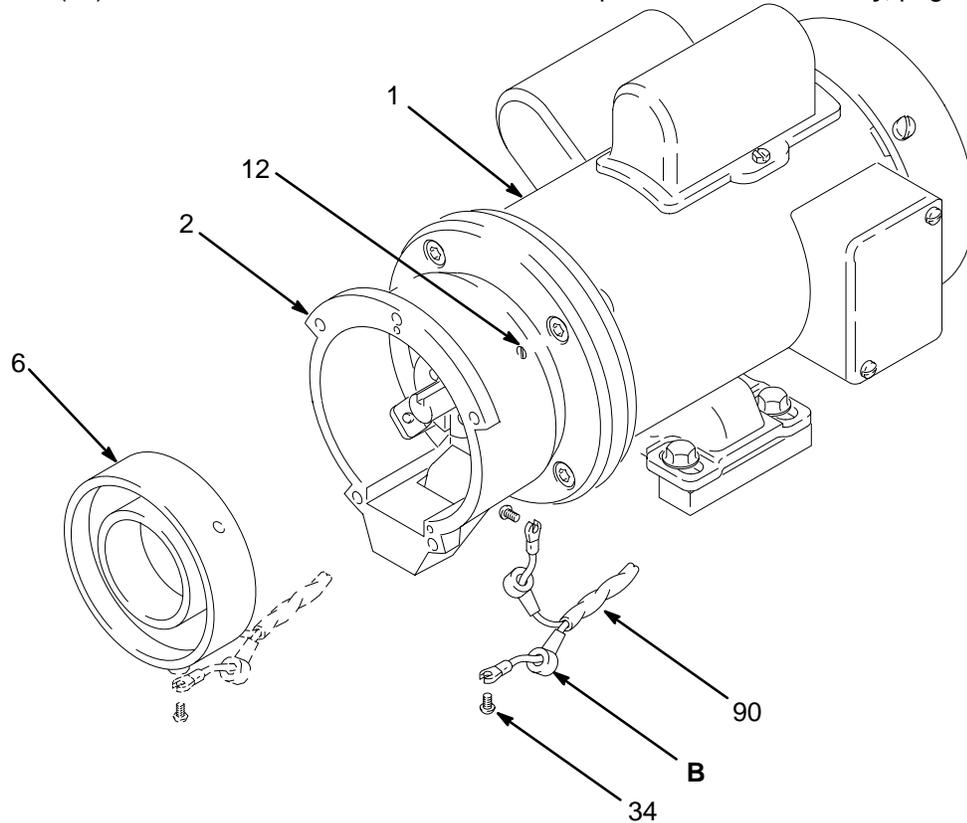

Fig. 28
**NOTE:** Refer to Fig. 28.
2. Pull the plastic caps (B) off the wire screws (34) in both places on the field (6). Loosen the screws and release the wires (90).
3. Loosen the four setscrews (12) holding the field (6) to the clutch housing (2).